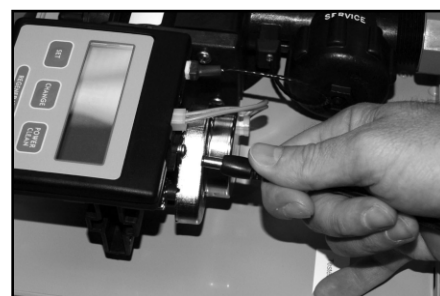

Figure 8: Connect Power Cord
- A. Connect the transformer power cord to the back of the controller. (See Figure 8.)